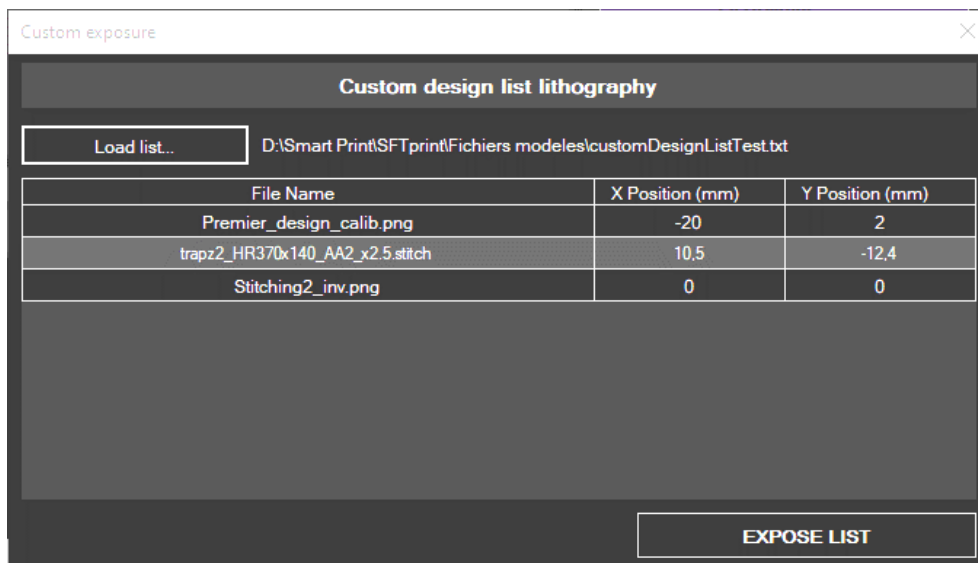
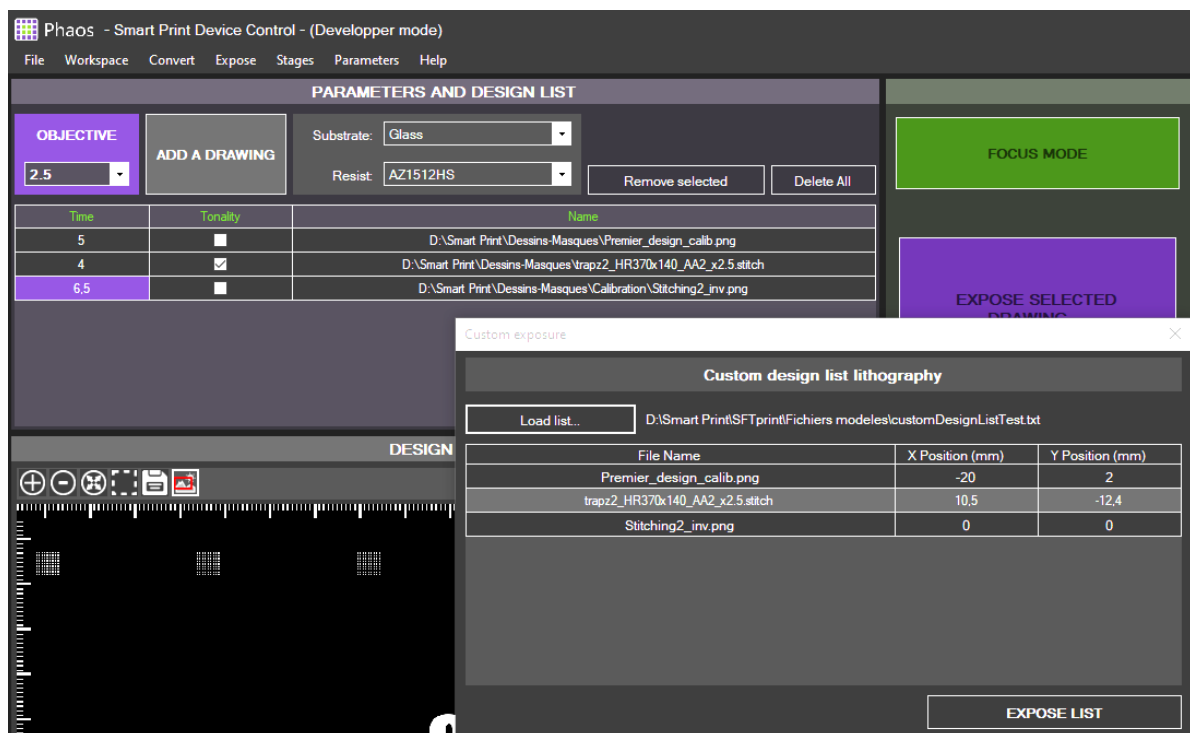

Figure 49 – Custom exposure: parameter file loaded
Figure 50 – Custom exposure: data loaded and ready for exposure
- If the parameter file contains no mistakes (drawing not found, unknown characters, etc.), the file will load on the window (Figure 49) and will update on the main window in the **PARAMETER** panel (Figure 50).
- Click on the **EXPOSE LIST** button in the **Custom exposure** window (Figure 50)